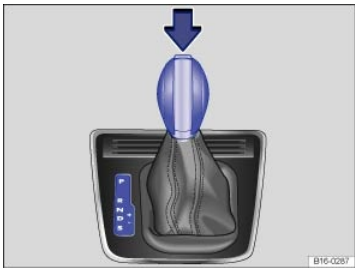

Fig. 125 Automatic transmission selector lever with shift lever release button (arrow).
Automatic transmission vehicles have an Automatic Shift Lock (ASL). With ASL, you must switch on the ignition, depress the brake pedal and hold it down while pressing the release button on the selector lever handle in the direction of the arrow ⇒ Fig. 125 to move the selector lever out of Park (P) and into a drive gear. When the selector lever is in Neutral (N), you also have to depress the brake pedal before you can move the selector lever to Drive (D), Sport Drive (S), or Reverse (R).